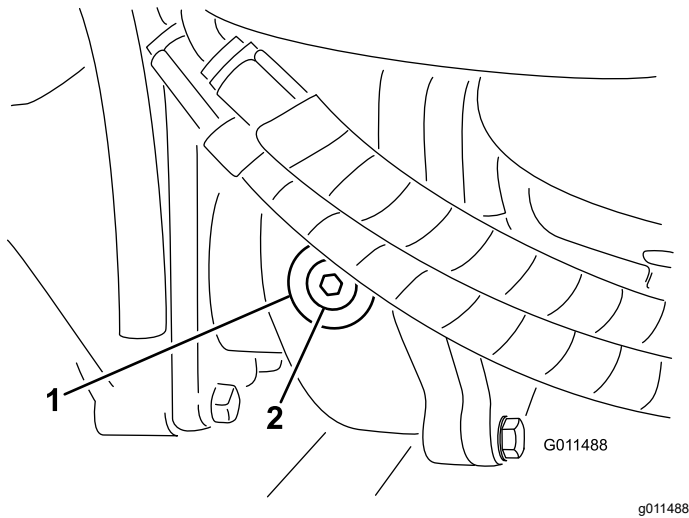

Figure 108
2. Remove the check/fill plug from the left side of the gearbox and ensure that lubricant is up to the bottom of the hole (Figure 108).